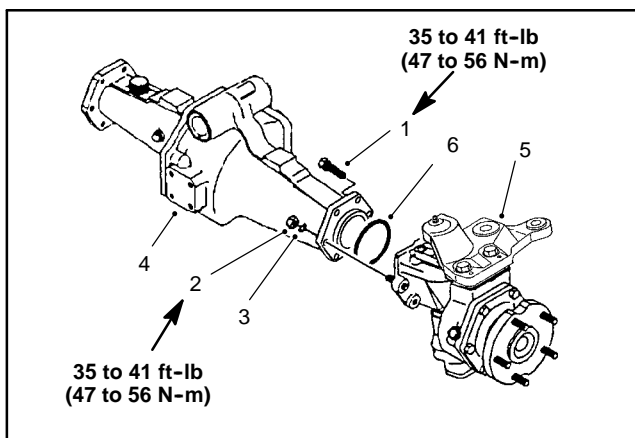

Figure 17
1. Remove the mounting screws, nuts and lock washers. Remove the bevel gear case/axle case assembly and O-ring from the axle support (Fig. 17).